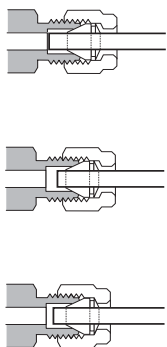

Figure 28. Completed fitting
- 10 Both correctly- and incorrectly-swaged connections are shown in **Figure 28**. Note that the end of the tubing in a correctly-swaged fitting is not crushed and does not interfere with the action of the ferrules.